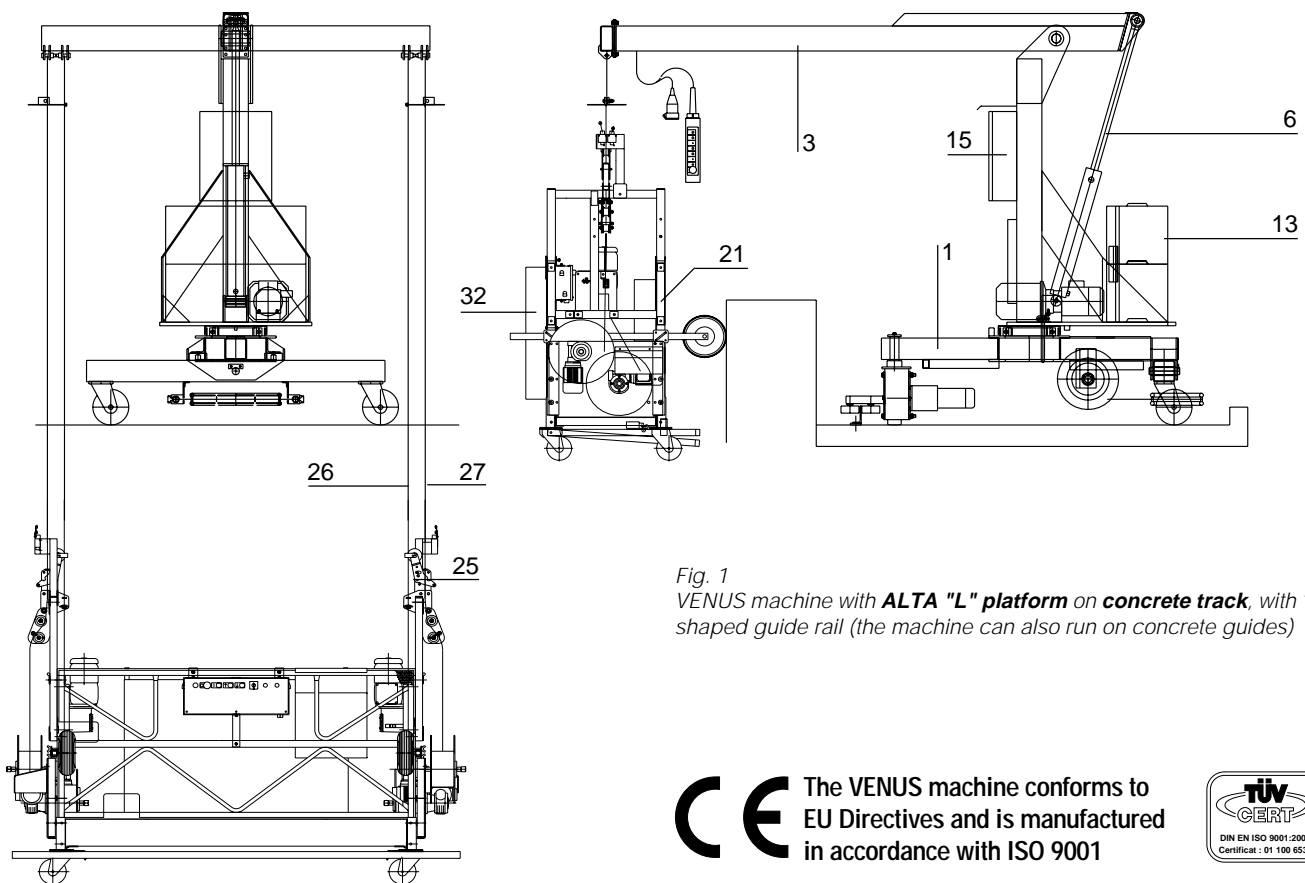

Fig. 1
- an **ALTA «L» 2 m platform** with 2 suspension points (Fig. 1)